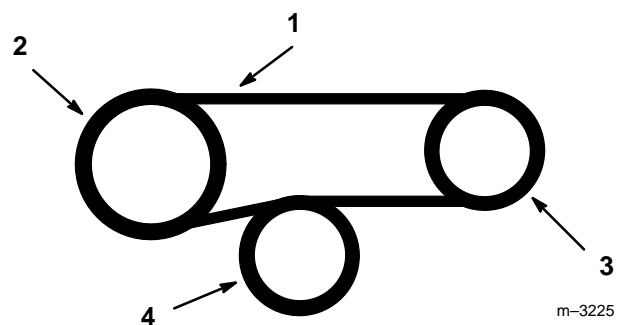

Figure 34
4. Install new PTO belts over clutch and route around gearbox pulleys and above spring loaded idler (Fig. 34).